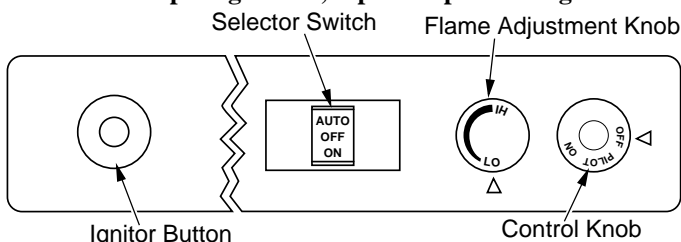

Figure 32 - Control Knob and Ignitor Button Location (Shown as Supplied, No Control Options)
5. Wait five (5) minutes to clear out any gas. Then smell for gas, including near the floor. If you smell gas, STOP! Follow "B" in the safety information on page 16, column 2. If you don't smell gas, go to the next step.
6. Press in and turn control knob counterclockwise  to the PILOT position. Press in control knob for five (5) seconds (see Figure 32).